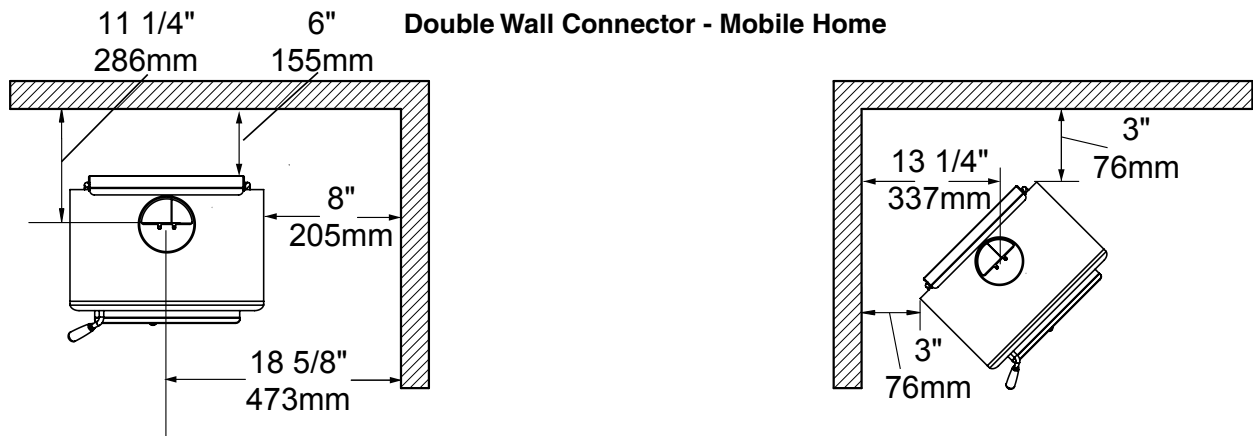

Figure 8: TN10 Mobile home clearances.
2. Mobile Home installation must use listed double-wall connector, For installation in a mobile home, see clearances in Figure 8 on page 19.